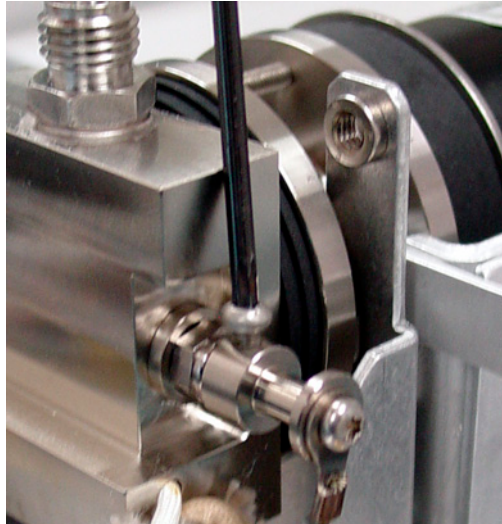

Figure 38 Removing the ignitor cable
- 4 Use a Torx T-10 driver to loosen the collar screw holding the cable assembly to the ignitor (Figure 38). Remove the collar and cable assembly. Some FPDs have a version of the collar with two screws.